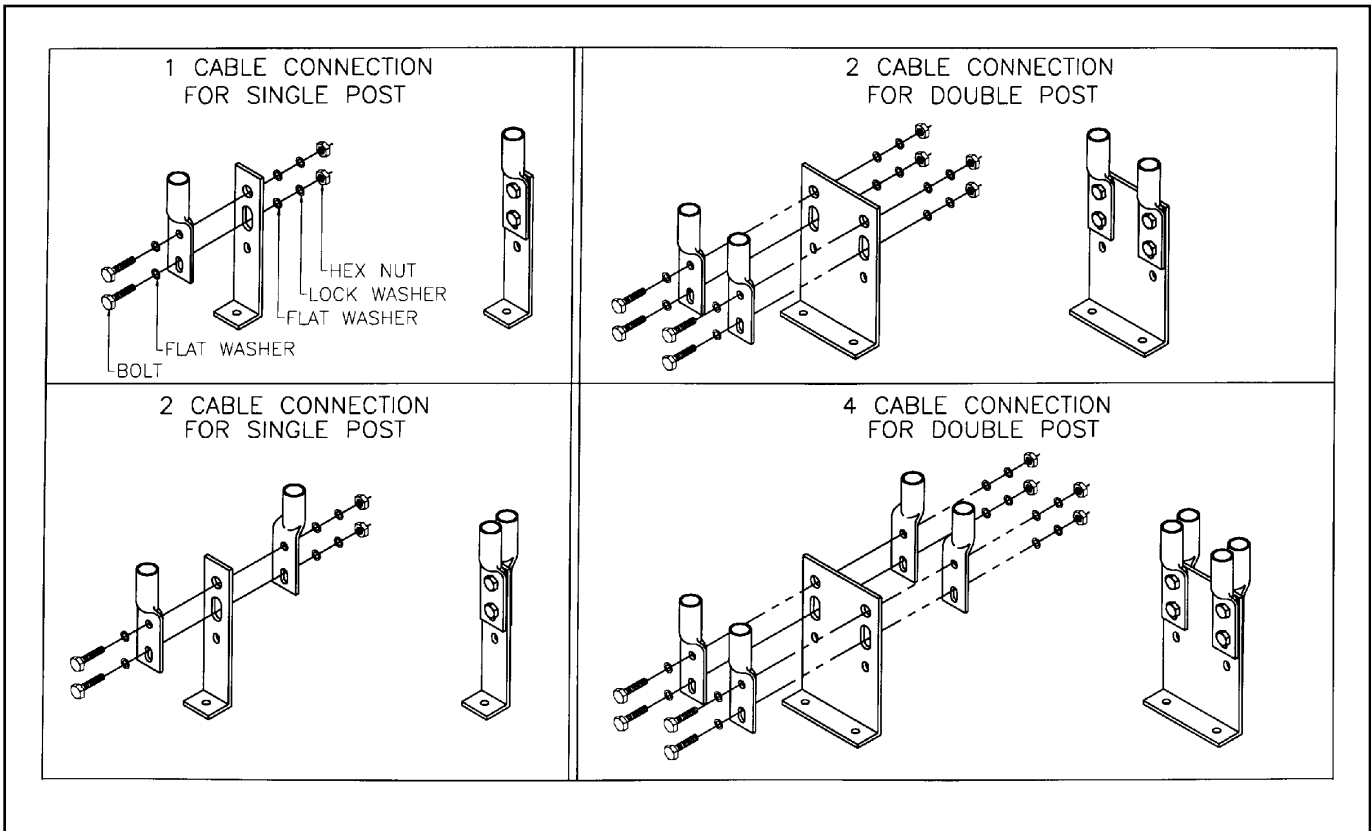

Fig. 15 (Cable Connection Assembly)
3. For cable connection assembly, (See Fig. 15, pg. 10.)